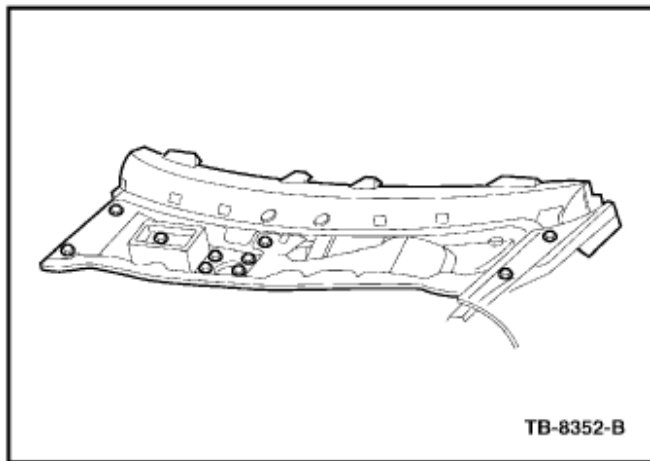

Figure 6
7. Remove the lower cowl panel assembly. (Figure 6)
- Remove the ten (10) bolts.
8. Obtain two (2) PVC soft foam adhesive stripes (164-R4901) from the Rotunda Squeak And Rattle Kit (164-R4900).